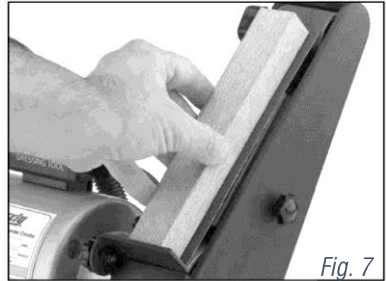

Fig. 7
5. Press the workpiece evenly against the sanding belt with light pressure (see Figures 7 and 8). **DO NOT** press hard. Let the rotation of the belt do the work.